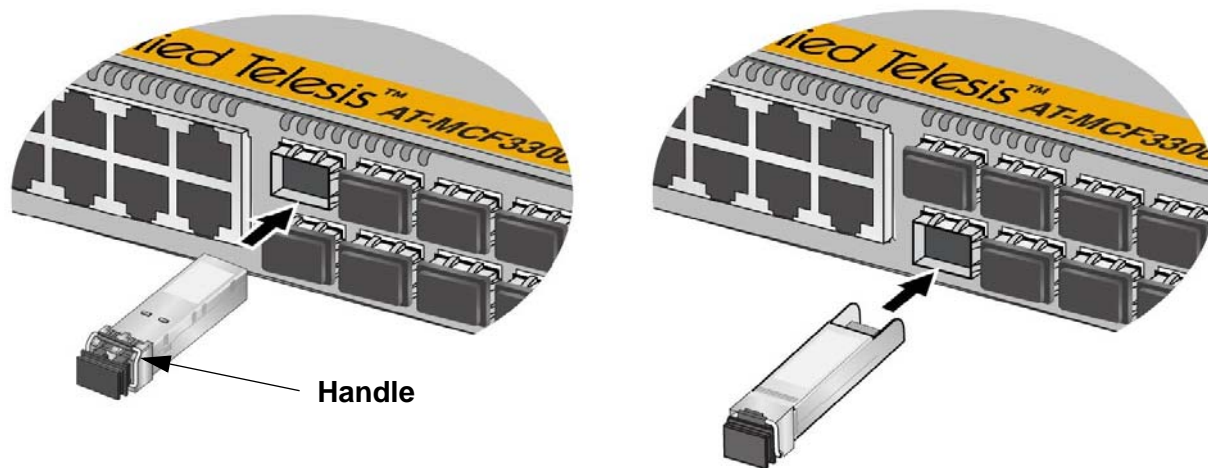

Figure 46. Installing Fiber Optic Transceivers in the MCF3000/8SP Module
6. Slide the transceiver into the slot until it clicks into place. Refer to Figure 46.